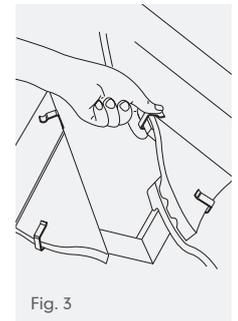

Fig. 3
- 5 In addition, prevent any small cut pieces of tile from slipping down the roof slope by using tail clip (supplied in fixing kit), which is simply bent over back of tile below and fitted over front edge of the cut tile (Fig. 3 , page 178).